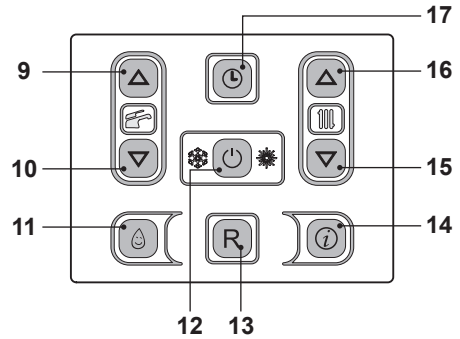
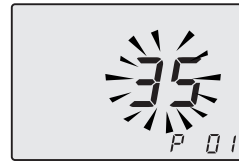

Fig. 7.46
Fig. 7.47
- Enter the "programming mode" by pressing keys 12 - 15 - 16 (Fig. 7.46) for 10 seconds at the same time until the letters **P01** are displayed on the LCD display and the value of the parameter (40=Activ A Plus 16S or 41=Activ A Plus 25S), indicating that "parameter 01" (Fig. 7.47) has been activated.
- Press keys 9 or 10 to change the value and confirm the value of the parameter with key 12.
- Press keys 15 or 16 (Fig. 7.46) to exit without changing the value.